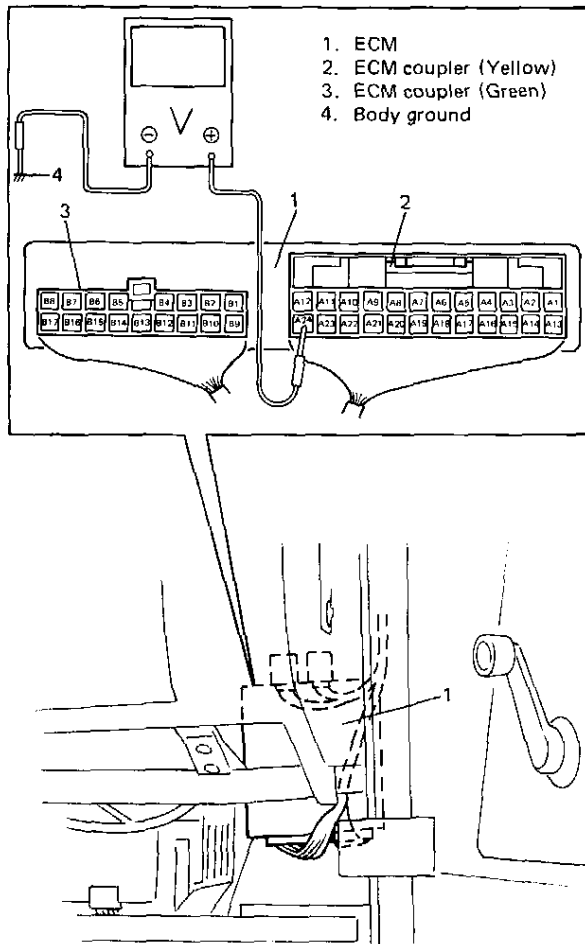

Fig. 4A-35 Checking Voltage and Terminal Position
- For ECM coupler terminal positions (A1, A2 ... to A24 and B1, B2 ... to B17), refer to Fig. 4A-35.